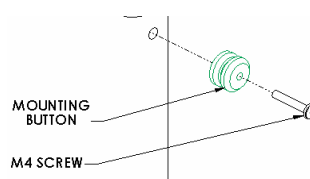
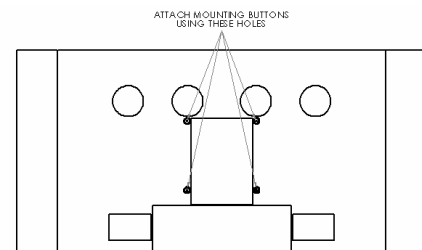

Figure 3
Figure 4
2. Attach mounting buttons to display using four M4 screws provided (see Figure 3 & Figure 4).